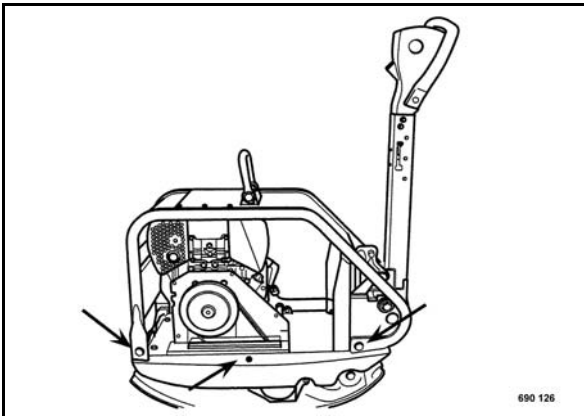

Fig. 51
- Loosen the rear nuts (Fig. 51) on both sides for a few turns.